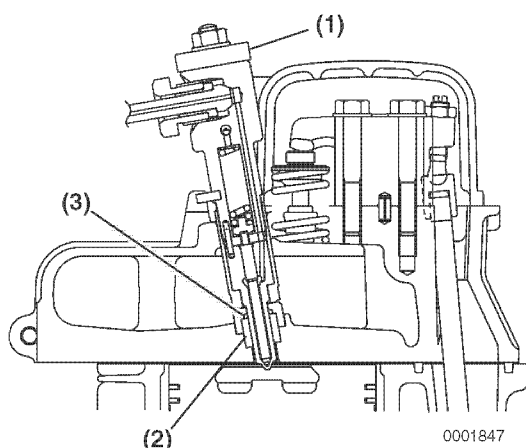

Figure 7-28
4. Remove the fuel injector retainer plate (**Figure 7-28, (1)**).
6. Remove the injector nozzle gasket (**Figure 7-28, (2)**) and spacer (**Figure 7-28, (3)**). If the injector nozzle gasket and spacer remain in the cylinder head, remove them from the cylinder head by threading an 8 mm or 9 mm bolt, at least 200 mm long, into the gasket. Use the bolt as a puller. Discard the gasket.